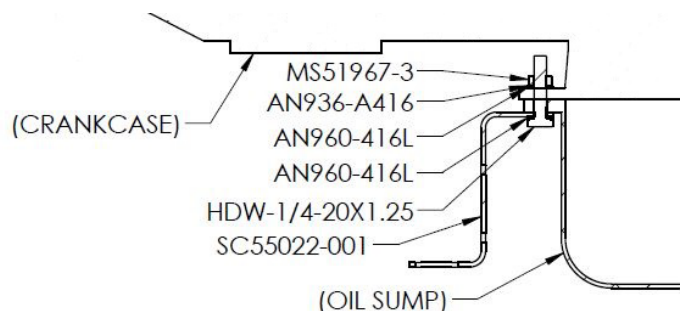

FIGURE 1 – COIL BRACKET INSTALLATION (EARLY SNs)
4. Remove three bolts from the forward flange of the oil sump; one just to the left hand side of the engine centerline, and two to the right hand side of the centerline. Install the SC55022-001 bracket on these three holes, on the bottom side of the oil sump flange, using hardware shown in Figure 1. Proceed to Step 7